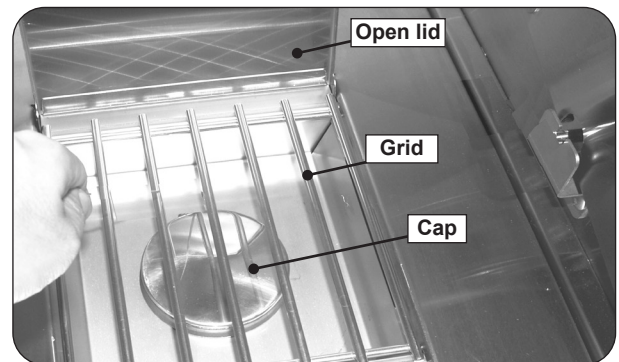

Fig. 29-2 Place burner cap and grid
5. Place the burner cap on top of the burner, as shown in Fig. 29-2.
6. Place the grid so that it rests on the front and back lips of the sideburner opening (Fig. 29-2).